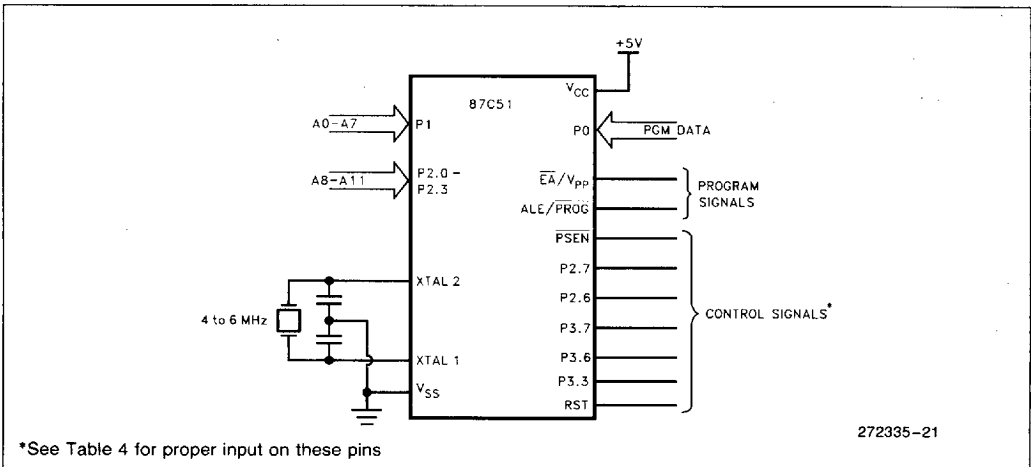

Figure 10. Programming the EPROM
Refer to Table 4 and Figures 10 and 11 for address, data, and control signals set up. To program the 87C51 the following sequence must be exercised.
*For programming conditions see Figure 10.